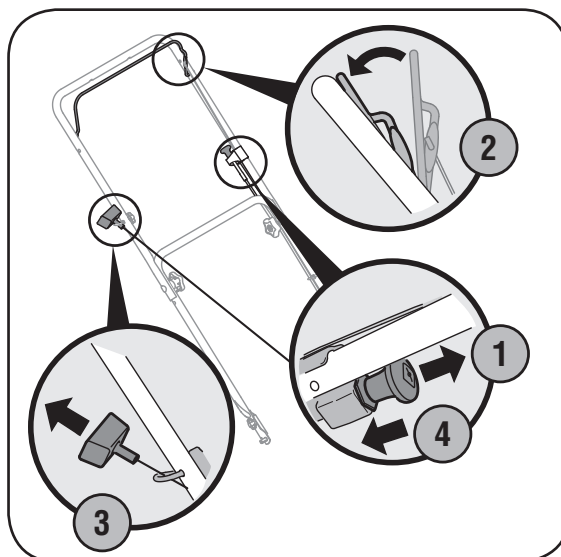

Figure 9-3: Starting the mower. (Your mower may differ from that shown)
1. Pull out the choke knob located on the left side of the upper handle, Figure 9-3.